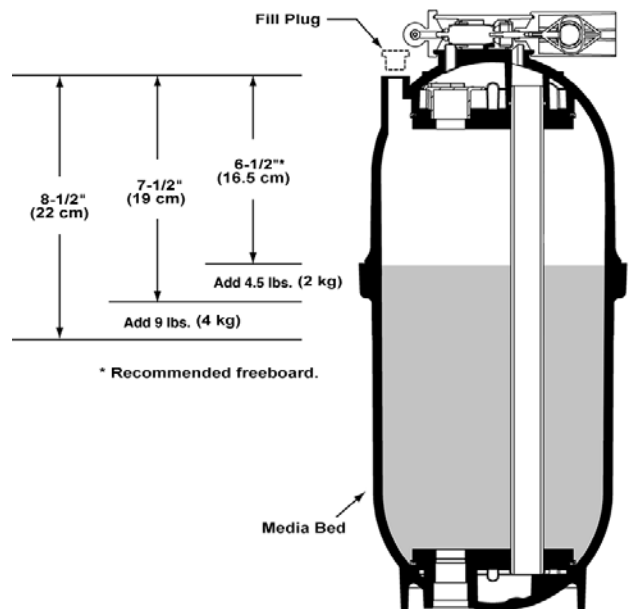

Figure 10: Maximum Freeboard Amount
- Measure the freeboard distance from the top of the tank to the media. See Figure 10.